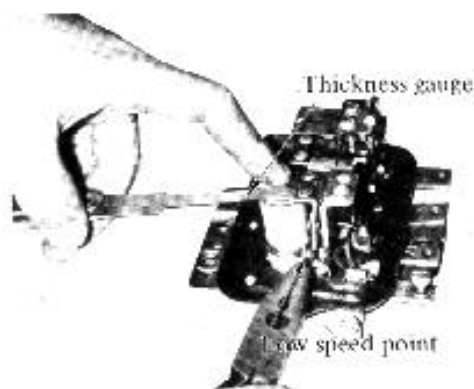

Fig. 6-17
- 6) For the adjustment of the gap, first adjust the air gap as shown in the Fig. 6-17 and 6-18. Set the thickness gauge to the specified air gap value and insert it between armature and core. Depress the armature and bend the arm of the low speed contact point so that the low speed point contacts well with the moving point. Then, in the static condition, bend the arm of the high speed contact point so that the point gap between moving point and high speed point becomes the specified value.